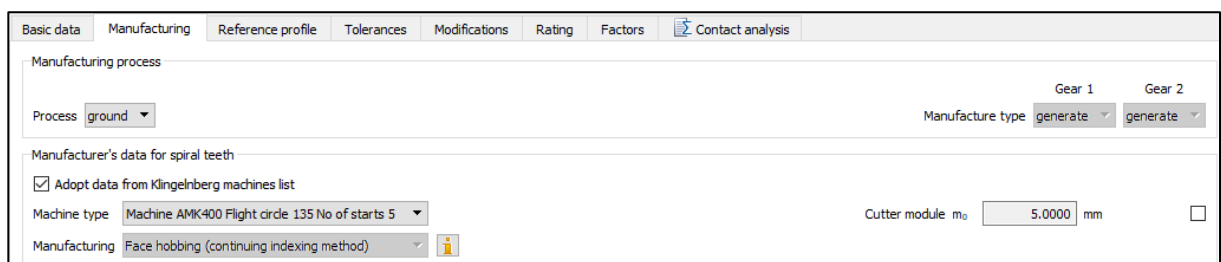

Figure 25. Selecting the cutter tip from the list of Klingelberg machines
8. Under «Manufacturing», select «Face hobbing (continuing indexing method)» as the manufacturing process, and enter the «Cutter radius» and the «Number of tools blade groups». We recommend you use the sizing function  to the right of the «Cutter radius» input field to get a suggested value for the minimum cutter tip size (in accordance with Klingelberg «Bevel gears», page 70) and then enter the cutter tip radius that was actually used, from Production. As an alternative, you can transfer the cutter tip from the «List of Klingelberg machines» if the checkbox is active (see Figure 25).